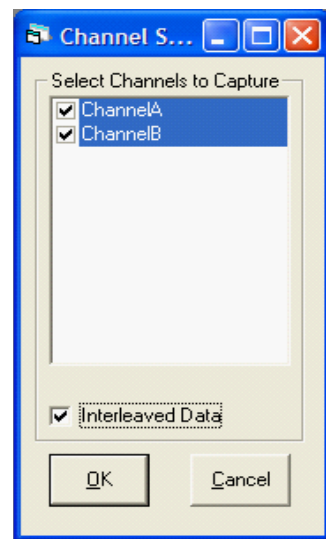

Figure 23. Channel Selection
- 1 Click Config > Channel Select, opening the window shown in Figure 23. Double-check and make sure the Interleaved Data box is selected. Click **OK**. Note that Channel A in the software corresponds to Channel 1 on the FIFO schematics and the bottom FIFO on the evaluation board. Channel B corresponds to Channel 2 on the FIFO schematics and the top FIFO on the evaluation board (closest to the Analog Devices logo). See the Jumpers section for more information.